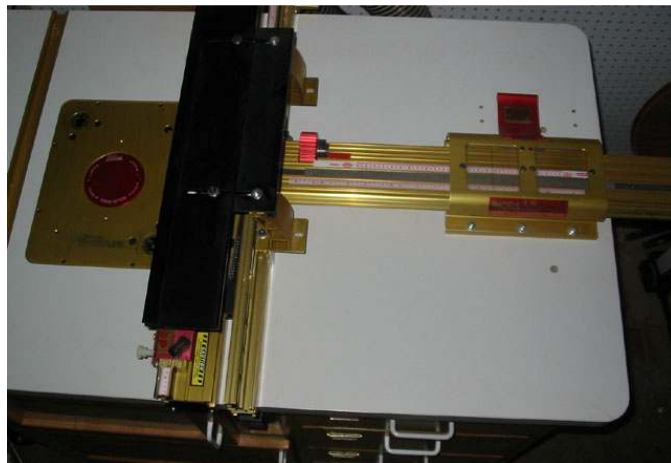

Figure 26
I used an Incra Lead Screw (LS) system on the prototype as shown in Figure 26, although there are competitive models that will work as well. The Woodpecker's Inc top is pre-drilled for several Incra fencing system models, but if you are using a different fence or are making your own top, then simply drill the holes and mount the fencing system according to the manufacturer's instructions.